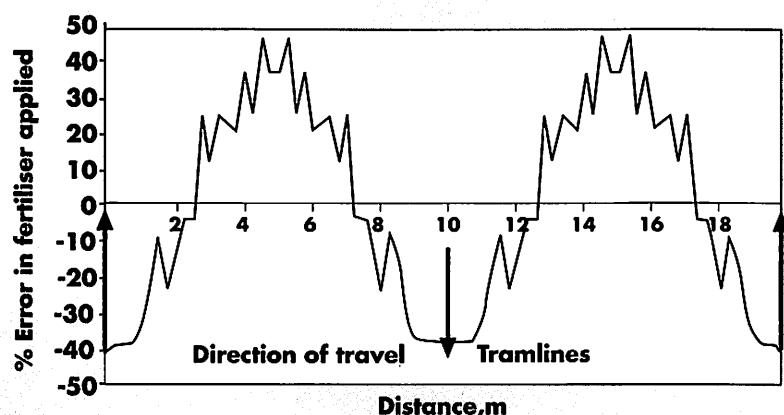
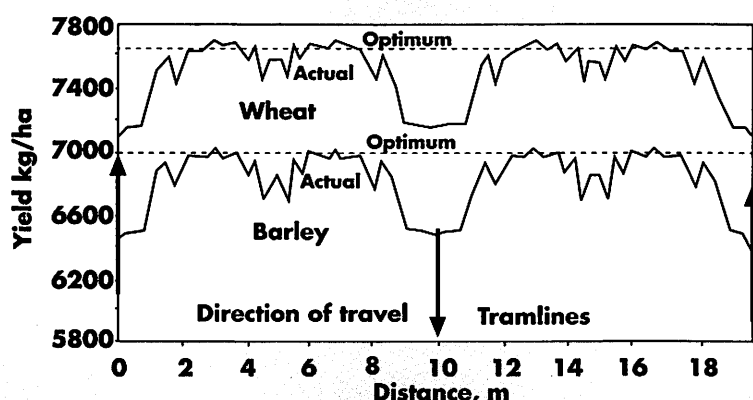
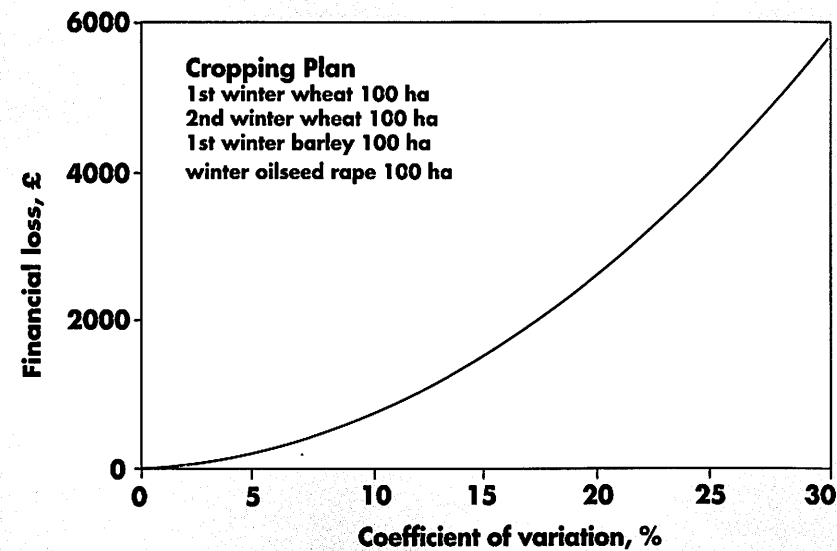
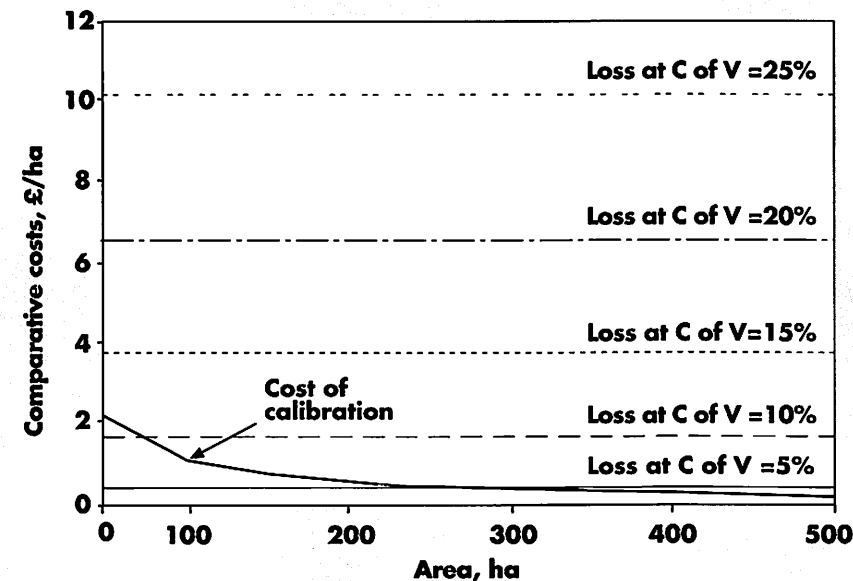

Fig. 1 Lapped spreader pattern
Fig. 2 Yield effect from lapped pattern
Fig. 5 Financial loss due to inaccurate spreading of N fertiliser.
Fig. 6 Cost of calibration: comparison to financial loss at different levels of coefficient of variance for spreader.
Figure 1 represents the actual spread pattern from a spreader prior to maintenance and calibration. The figure shows severe problems, with some areas being given 40 % more fertiliser than required while others receive 40 % too little. The coefficient of variation of the spread pattern is 29 %. Figure 2 represents the effect of this on yield, assuming no lateral movement of fertiliser after spreading. Due to the nature of the fertiliser/yield function, excessive fertiliser can actually cause a yield reduction. No account is taken of the increased likelihood of lodging and its effect on har-
spreading. Figure 5, indicates the financial loss, from the given cropping plan, when the coefficient of variation is considered. A break-even analysis is illustrated in Figure 6 which considers the cost of calibration against area, utilising the same rotation as in Figure 5. The cost of calibration given in this case is £110. Both figures demonstrate the economic necessity of calibration. If the spreader considered in Figures 1 & 2 had been used over 400 ha, the financial loss would be in the order of £6000, whereas the cost of calibration is £110. Even after calibration, a small coefficient of variation will remain; in the case illustrated, it was 7.63 %. This, however, does not constitute a significant financial loss.
Figure 5 is not sensitive to changes in fertiliser price as the “loss” is a loss of potential crop and therefore based on the price of each crop commodity. The increase in fertiliser price for the 1996 season to £0.41/kg (N), causes an average reduction in margin for the rotation illustrated in Figure 5 of £14.27/ha, or a total cost of £5,700 over the 400 ha.
Diversity has to be balanced against the need for unity in a landscape, where all the parts belong to the whole. An incompatible shape or an element creating a lot of contrast can fail to achieve unity with its surroundings and so look distinctly unhappy and out of place (Figure 5).
All landscapes are different although there might be general similarities amongst some of them. The sense of place is important to us in that it helps to identify a particular location and make it special. It is an intangible elusive quality easy to damage and difficult to repair. New elements introduced into a landscape should avoid damaging the *genius loci* and ideally should complement it (Figure 6).
**Fig. 5 Unity.** The buildings (top) all comprise a unified composition due to their shapes, sizes and colours being similar, contrasting with the disharmony generated by the addition of a mismatched building (bottom).
**Fig. 6 *Genius loci*.** The view of a dramatic waterfall and tree lined gorge (top) is disrupted by incorrectly locating the road and bridge (bottom), an artificial intrusion which detracts from a landscape feature with a strong sense of place.